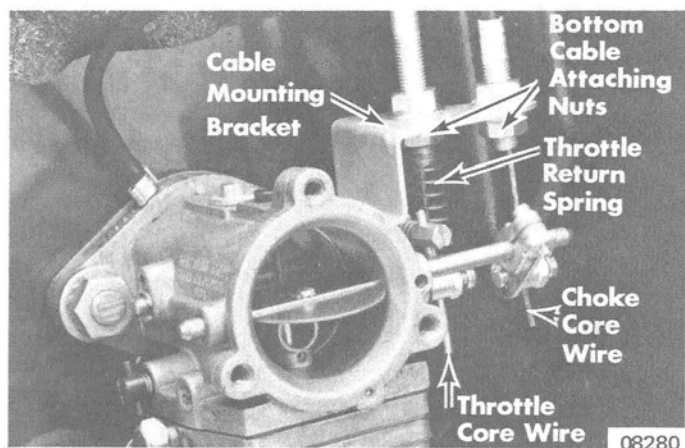

Figure 1A. Cables to Carburetor (Chassis Serial No. 3709838 and Above)
5. Install throttle cable thru mount bracket, attaching nut, throttle return spring (Figure 1A) and throttle cable anchor. Tighten attaching nut. (Figure 1 or 1A)